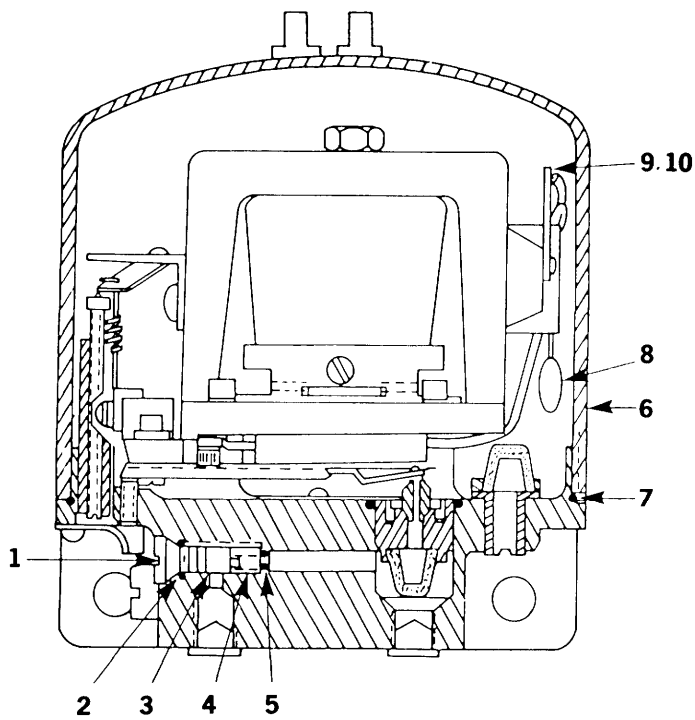

Figure 6-1. REPLACEMENT PARTS ILLUSTRATION
Check for dirty supply filter Item 3, Figure 6-1).
5.3.1.1 Remove and Replace Restrictor Orifice (Item 4, Figure 6-1) and Supply Air Filter (Item 3, Figure 6-1).